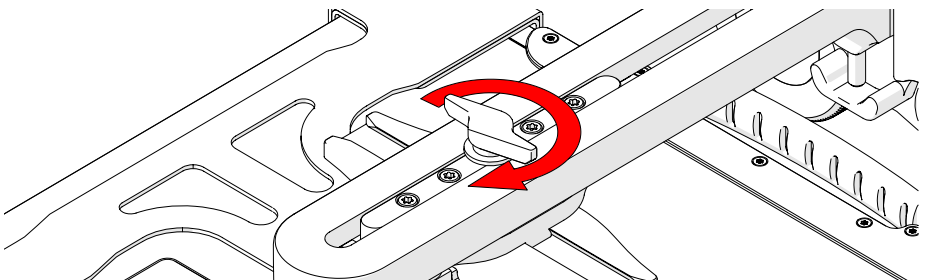

Fig. 38 - Tighten wing knob to lock position
2. Tighten the wing knob to lock the chosen detector position (*Fig. 38*).